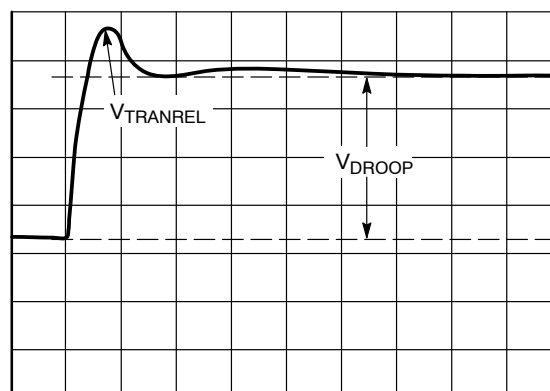

Figure 37. Transient Setting Waveform, Load Release
3. For load release (see Figure 37), if $V_{TRANREL}$ is larger than the value specified by IMVP-6.5, a greater percentage of output capacitance is needed. Either increase the capacitance directly or decrease the inductor values. (If inductors are changed, however, it will be necessary to redesign the circuit using the information from the spreadsheet and to repeat all tuning guide procedures).